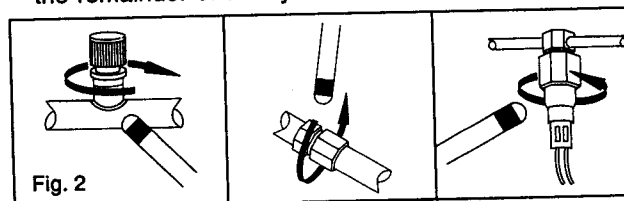

Fig. 2
5. At each area checked, the probe should be moved around the location, at a rate no more than 25 to 50 mm/second (1 to 2 in/second), and no more than 5 mm (1/4 in) from the surface, completely around the position. **Slower and closer movement of the probe greatly improves the likelihood of finding a leak** (see Fig. 2).